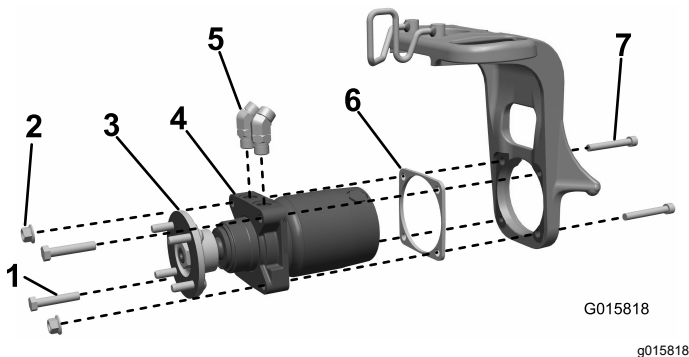

Figure 3
1. Install the 45° hydraulic fittings into the wheel motor and orient them approximately as shown in Figure 3. Leave the fittings loose.
- **For machines with caster forks that have 2 threaded holes and 2 through holes where the wheel-motor assembly mounts to the caster fork:** Install the wheel-motor assembly and shim plate to the castor fork (placing the shim between the motor and castor fork) and secure it with 2 socket head bolts (1/2 x 3-3/4 inches), 2 bolts (1/2 x 2-1/2 inches), and 2 locknuts (Figure 3).